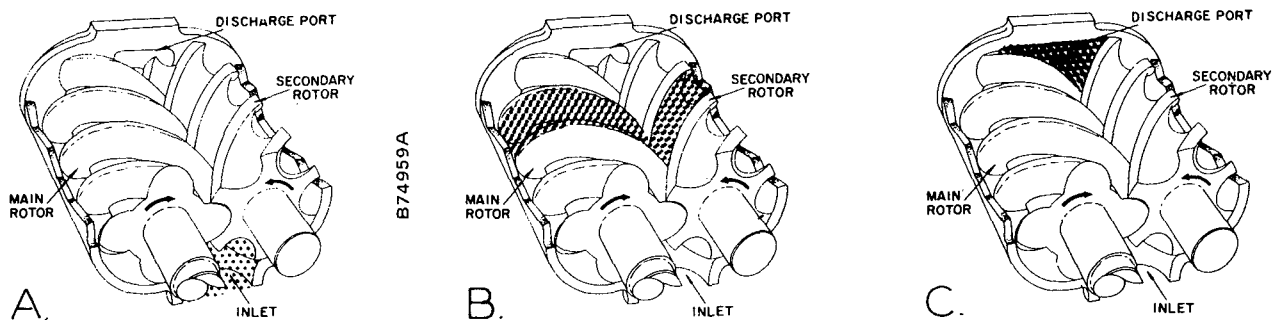

FIGURE 1-1. – COMPRESSION CYCLE
COMPRESSION PRINCIPLE (Figure 1-1) – Compression is accomplished by the main and secondary rotors synchronously meshing in a one-piece cylinder. The main rotor has four (4) helical lobes 90° apart. The secondary rotor has six (6) matching helical grooves 60° apart to allow meshing with main rotor lobes.
The air inlet port is located on top of the compressor cylinder near the drive shaft end. The discharge port is near the bottom at the opposite end of the compressor cylinder. *Figure 1-1 is an inverted view to show inlet and discharge ports.* The **compression cycle** begins as rotors unmesh at the inlet port and air is drawn into the cavity between the main rotor lobes and the secondary rotor grooves (A). When the rotors pass the inlet port cutoff, air is trapped in the interlobe cavity and flows axially with the meshing rotors (B). As meshing continues, more of the main rotor lobe enters the secondary rotor groove, normal volume is reduced and pressure increases. Oil is injected into the cylinder by proprietary means to remove the heat of compression and seal internal clearances. The Electra-Saver II utilizes Gardner-Denver’s exclusive Intensive Injection System to feed coolant into the compression chamber through dozens of small injection ports. This greatly improves the rate of heat exchange between the air/oil mixture with most of the injection and heat transfer occurring where the air has reached its highest pressure and greatest temperature. Hot spots in the compression cycle are eliminated. Volume reduction and pressure increase continues until the air/oil mixture trapped in the interlobe cavity by the rotors passes the discharge port and is released to the oil reservoir (C). Each rotor cavity follows the same “fill-compress-discharge” cycle in rapid succession to produce a discharge air flow that is continuous, smooth and shock-free.